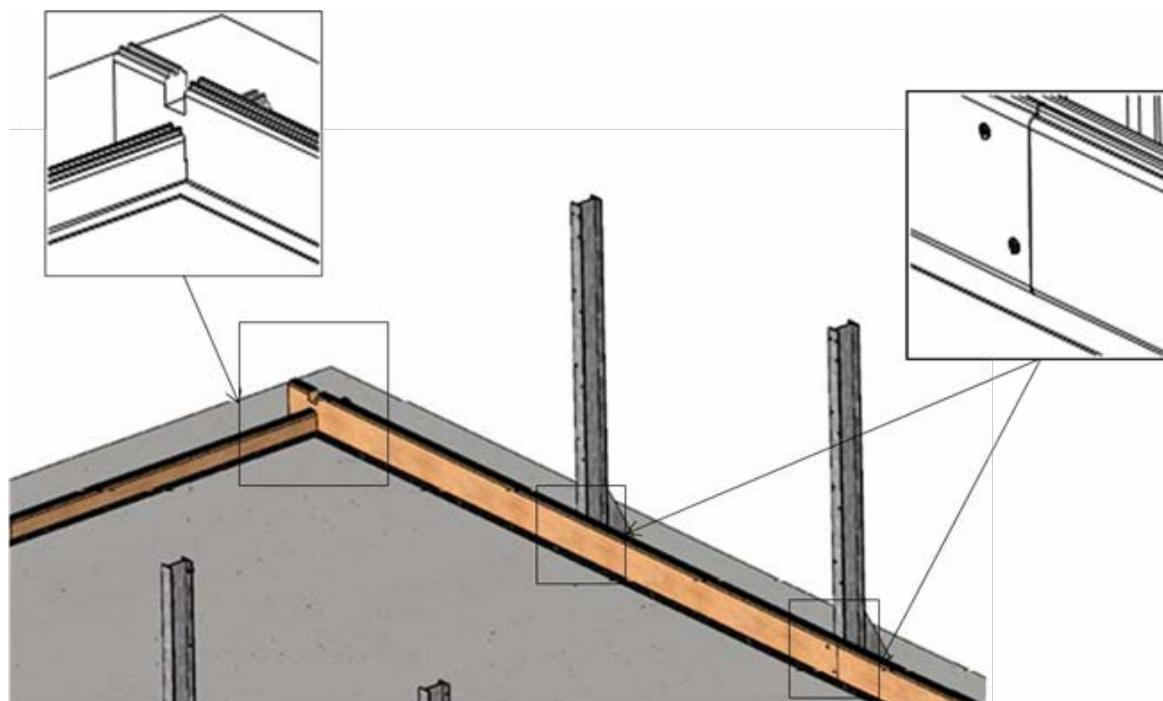

Figure 10 – Screwing the slats together
- screw them together as shown in *Figure 10* using 2 screws per slat pair, and on both sides, each torx countersunk A4 SS screws threaded over 25 mm (bag C)